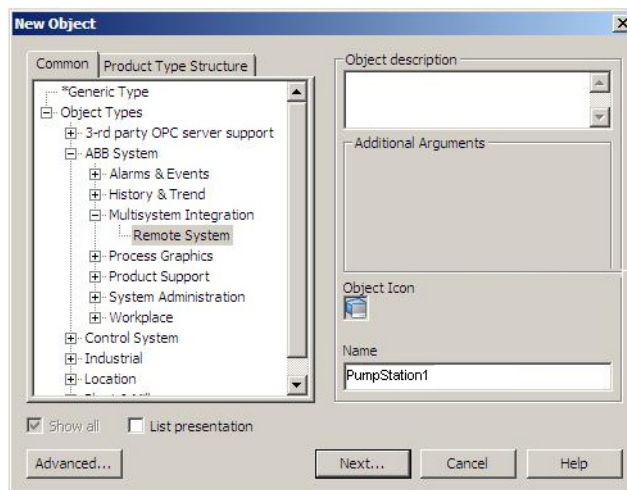

Figure 15. New Object Dialog Box for Remote System Object
1. To create a Remote System object, select Control Structure and select **New object** from the context menu. Select the object type **Remote System** in the **New Object dialog**, see Figure 15.